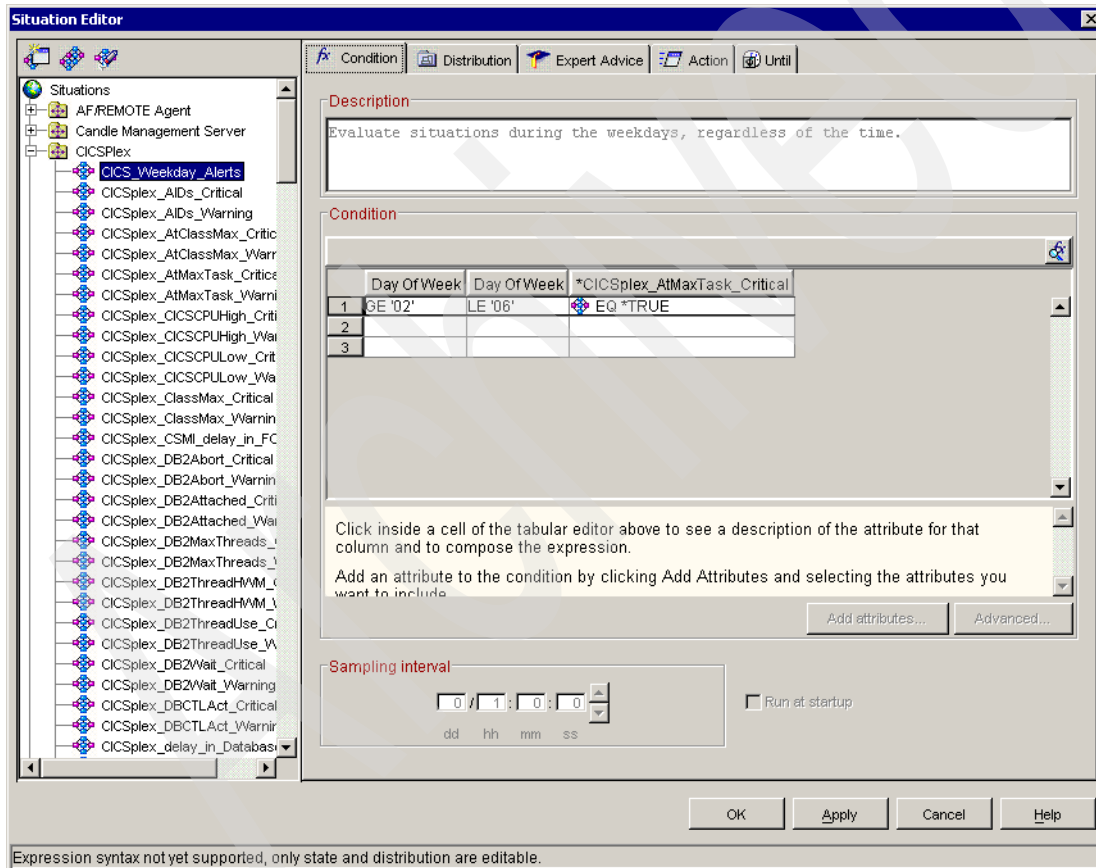

Figure 5-13 Embedded situation - CICS\_Weekday\_Alerts
- ▶ Another alternative is to have the Weekday situation embed all situations that must be evaluated on a weekday. This removes the overhead of the additional 20 Weekday situations evaluation. However, the generated event will be a generic one, called Weekday. (You could use a more meaningful name for Weekday, such as CICS\_Weekday\_Alerts, as shown in Figure 5-13). This situation checks to see whether the day of the week is Monday through Friday, and if true, it evaluates the situation CICSplex\_AtMaxTask\_Critical.